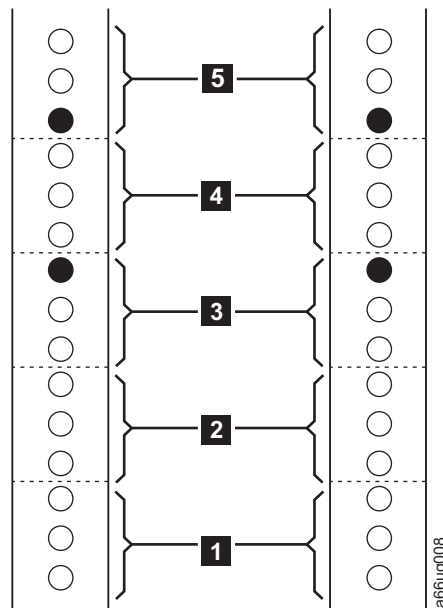
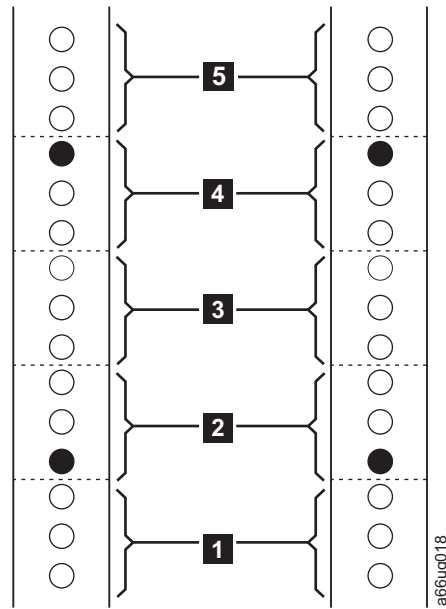

Figure 3-14. EIA identification and rail stud locations for FRONT vertical rack rails
Figure 3-15. EIA identification and rail stud locations for REAR vertical rack rails
An industry-standard rack has 3 mounting holes for each EIA increment (see Figure 3-14 on page 3-14).
1. With a pencil, make a mark below the first hole (**1** in Figure 3-14 and **1** in Figure 3-15 on page 3-15) in each of the five EIAs you selected for the rails in each vertical rail in your rack.
2. Locate and mark the hole that receives the rail studs as indicated by the black filled circles in Figure 3-14 and Figure 3-15 on page 3-15. The rail studs are on the front and back of each rail included in the rack mount kit.
- Top hole of the third EIA (**3** in Figure 3-14).
- Bottom hole of the fifth EIA (**5** in Figure 3-14).
- Bottom hole of the second EIA (**2** in Figure 3-15 on page 3-15).
- Top hole of the fourth EIA (**4** in Figure 3-15 on page 3-15).
- Top hole of the first EIA (see Figure 3-14 on page 3-14)
- Top hole of the second EIA in the vertical rack rails (see Figure 3-14 on page 3-14)